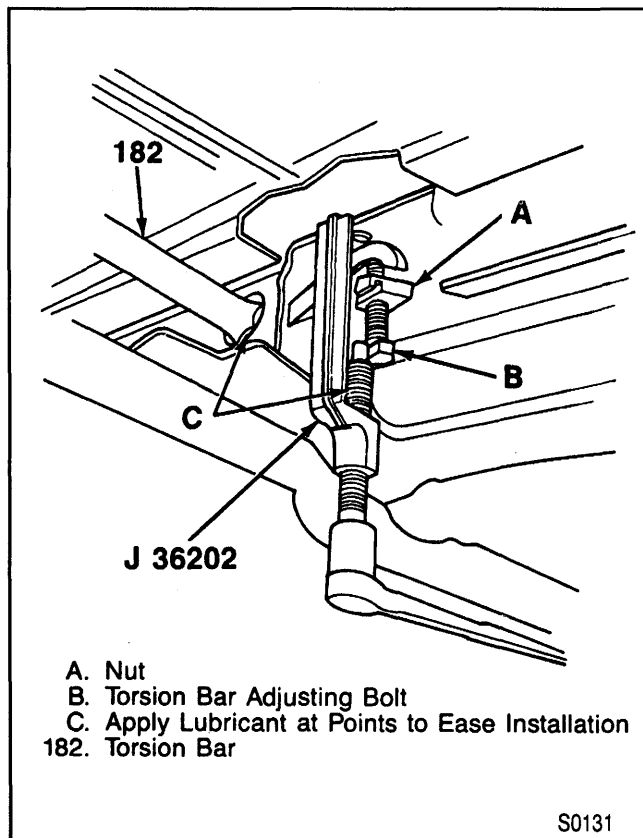

Figure 38—Removing or Installing the Torsion Bar Adjusting Bolt
2. Unload the torsion bar using tool J 36202 (figure 38).